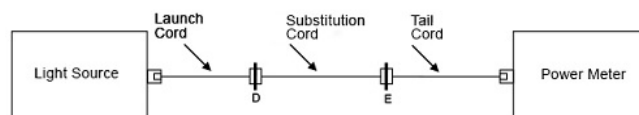

Figure 7. Set the reference
a. Set a reference between the light source and power meter using the launch cord, substitution cord, and tail cord (see Figure 7).